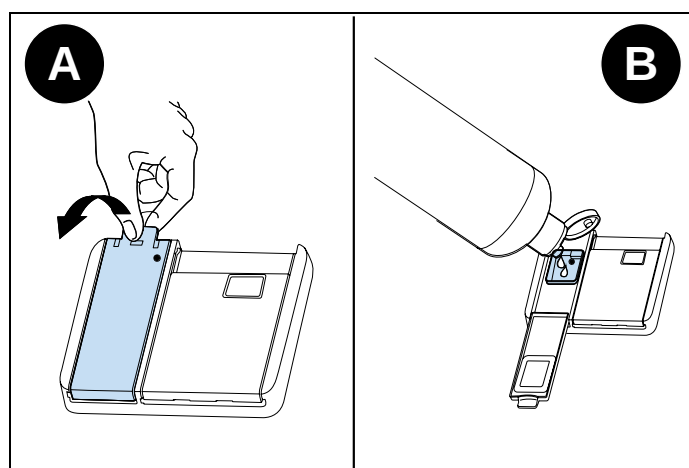

Fig. 58
- 1) To fill the rinse-aid compartment, open the rinse-aid compartment cap (Fig. 58 A)